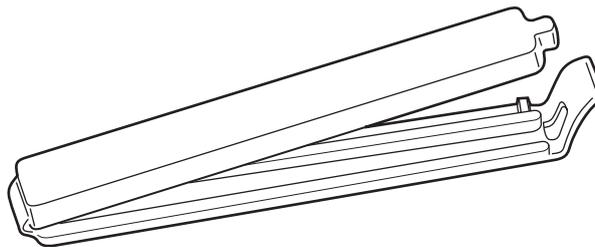

Fig. 6
- 10 Fig. 6 shows a food bag clip that is made from plastic.